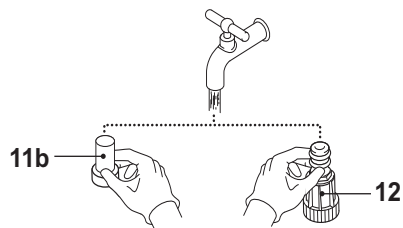

Fig. 22
- > Rinse the parts with clear water (Fig. 22).